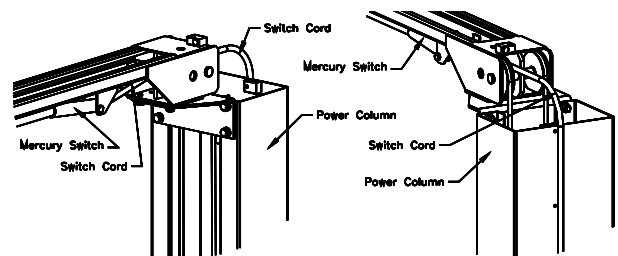

Fig 9 –Limit Switch Cord Routing
- 15) Route the Mercury switch cord through the end of the overhead and down the outside of the power column as shown in Fig 9.